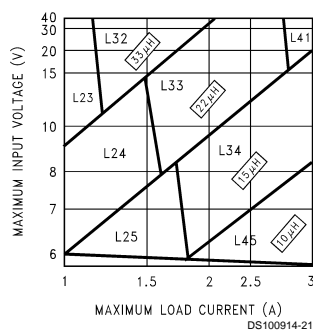
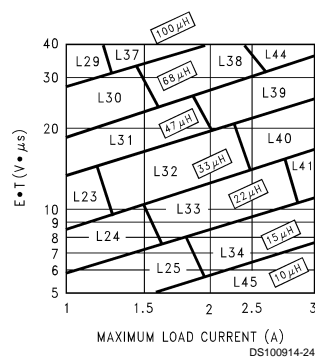

FIGURE 3. LM2676-3.3
FIGURE 6. LM2676-ADJ
**Step 3:** Determine the inductor required by using one of the four nomographs, *Figure 3* through *Figure 6*. Table 1 provides a specific manufacturer and part number for the inductor.
**Step 5:** Determine an input capacitor from Table 4 for fixed output voltage applications. Use Table 2 to find the specific capacitor type. For adjustable output circuits select a capacitor from Table 2 with a sufficient working voltage (WV) rating greater than  $V_{in\ max}$ , and an rms current rating greater than one-half the maximum load current (2 or more capacitors in parallel may be required).
**Step 3:** Use the nomograph for the 3.3V device, *Figure 3*. The intersection of the 16V horizontal line ( $V_{in\ max}$ ) and the 2.5A vertical line ( $I_{load\ max}$ ) indicates that L33, a 22 $\mu$ H inductor, is required.
**Step 3:** To use the nomograph for the adjustable device, Figure 6, requires a calculation of the inductor Volt•microsecond constant (E•T expressed in V•μs) from the following formula:
Using Figure 6, the intersection of 27V•μs horizontally and the 2A vertical line (Iload max) indicates that L38, a 68μH inductor, should be used.
**Important Note:** When using the adjustable device in low voltage applications (less than 3V output), if the nomograph, Figure 6, selects an inductance of 22μH or less, Table 6 does not provide an output capacitor solution. With these conditions the number of output capacitors required for stable operation becomes impractical. It is recommended to use either a 33μH or 47μH inductor and the output capacitors from Table 6.